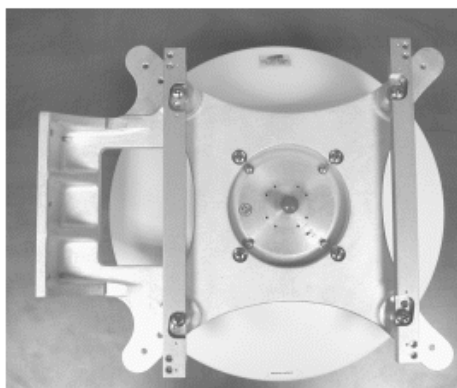

Figure 8-9: Vertical Polarization Installation
2. Attach the RFU to the mounting bar according to polarization as shown in Figure 8-9 and Figure 8-10.